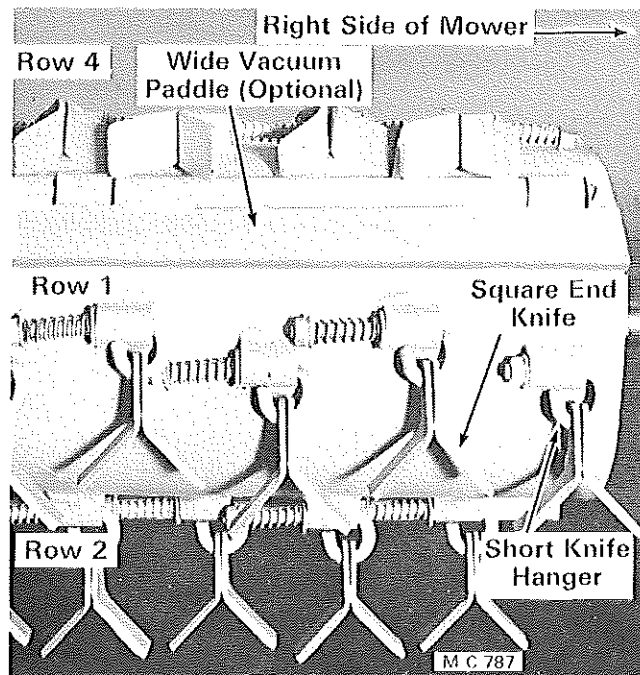

Figure 21 - Square End Knives - Above S/N 47348
replaced with the new square end knives shown in Figure 21.
**IMPORTANT:** To get the correct overlap of knives, the hangers must be installed as follows: (See Figure 21).
One short knife hanger is installed at the extreme right of row 1 as shown in Figure 21 and one at the extreme left of row 3 (hidden).
2. When the optional wide vacuum paddles, Figure 21, are to be installed, remove all of the standard vacuum paddles. The wide vacuum paddles mount between the standard vacuum paddle supports and are held in place with pivot rods, flatwashers and cotter pins.